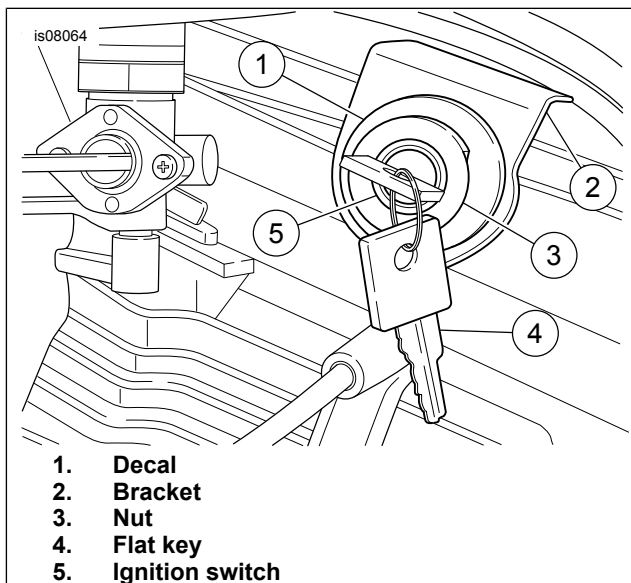

Figure 6. Flat Key Ignition Switch Installed - Typical
4. See Figure 6. The word "TOP" is marked on top of switch body (beneath plastic sheathing) to allow for proper positioning of switch. Install switch, align with correct switch label positions, install nut, and tighten nut (maintaining switch position).